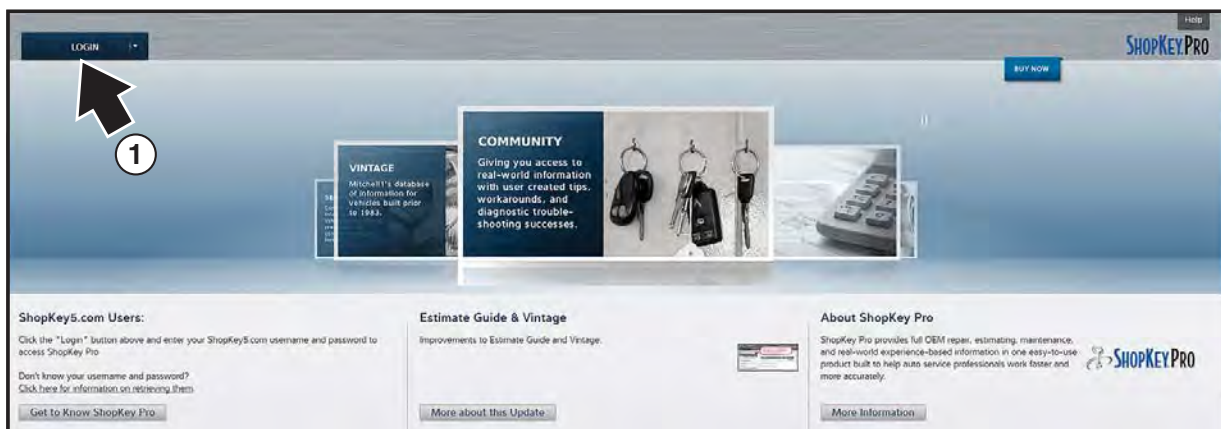

Figure 15-5
2. To create an account, follow the illustrated instructions in Figures 15-5 to 15-7.